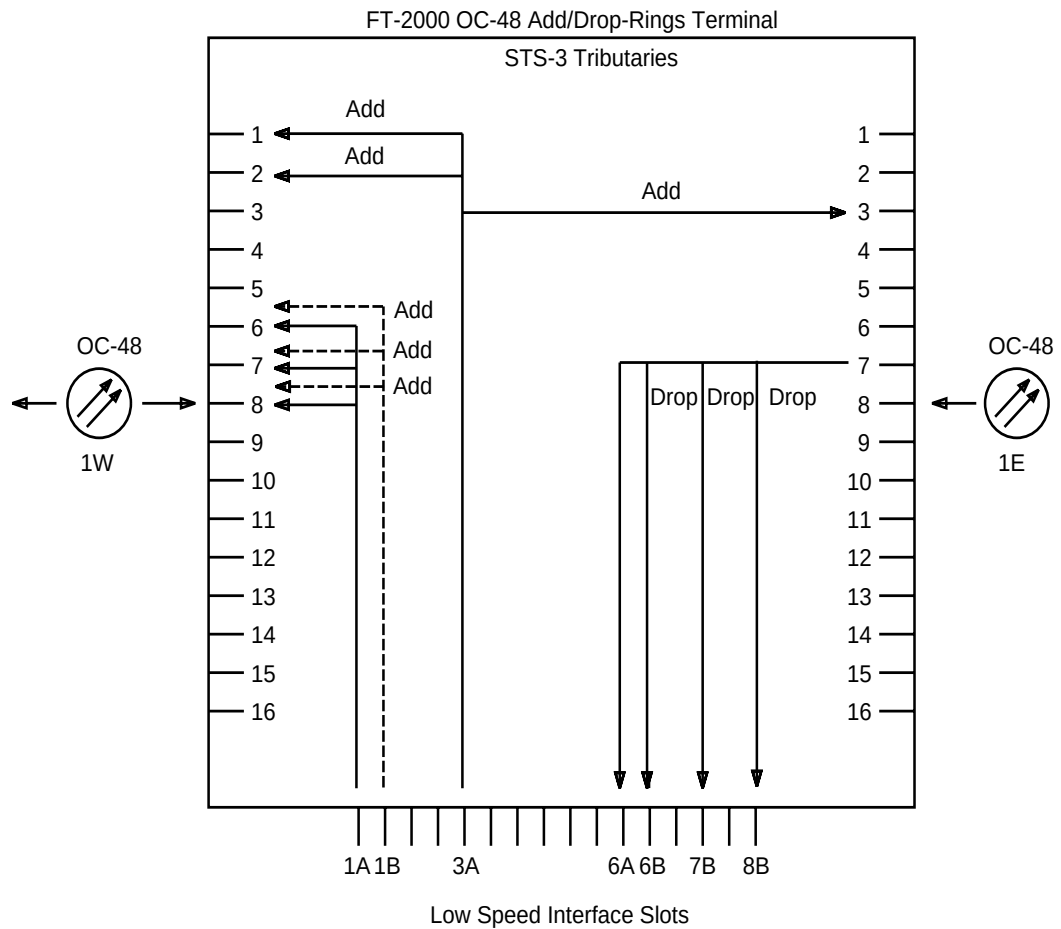

Figure 8-4. Multiple STS-3 Bridge Cross-Connections at an FT-2000 OC-48 Add/Drop-Rings Terminal
- **Multiple bridge cross-connections:** The FT-2000 OC-48 Add/Drop-Rings Terminal supports multiple bridge cross-connections. A multiple bridge cross-connection is three or more superimposed cross-connections sharing the same source. The source can be any incoming STS-3 tributary of OC-48 high-speed line 1E or 1W, or any service low-speed interface slot. For example, Figure 8-4 shows incoming service STS-3 tributary 7 of OC-48 high-speed line 1E cross-connected to service low-speed interface slots 6A, 6B, 7B, and 8A. Figure 8-4 also shows service low-speed interface slot 3A cross-connected to service STS-3 tributaries 1 and 2 of OC-48 high-speed line 1W, and service STS-3 tributary 3 of OC-48 high-speed line 1E.
Multiple bridge cross-connections can also be made to/from any service low-speed interface slot and the companion low-speed interface slot (for example, 2A and 2B) when the slot pair is provisioned for the OC-3 1+1 protected mode. For example, Figure 8-4 shows service low-speed interface slots 1A and 1B cross-connected to service STS-3 tributaries 6, 7, and 8 of OC-48 high-speed line 1W.